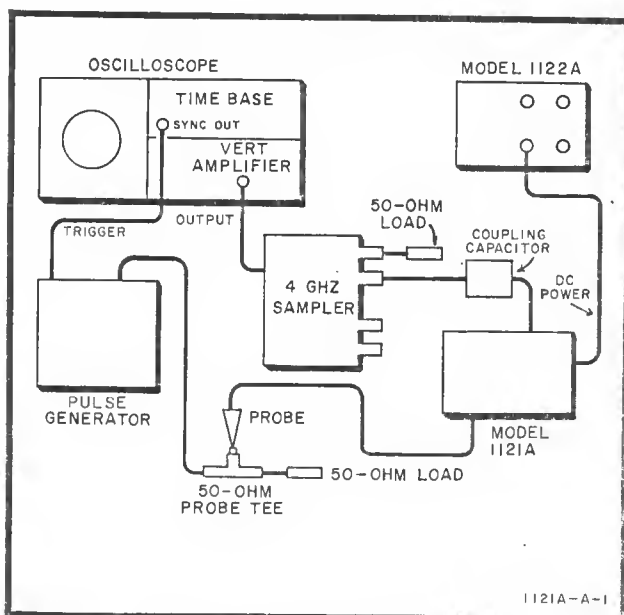

Figure 9. Risetime Test Setup
- Connect equipment as shown in Figure 9.